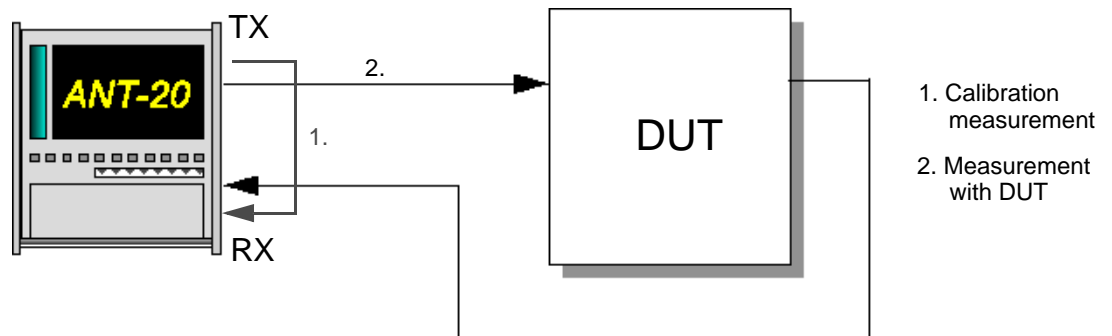

Fig. A-62 Jitter transfer function measurements setup
**Tip:** For maximum measurement accuracy, it is a good idea to make a calibration measurement before every JTF measurement (see Fig. A-62).